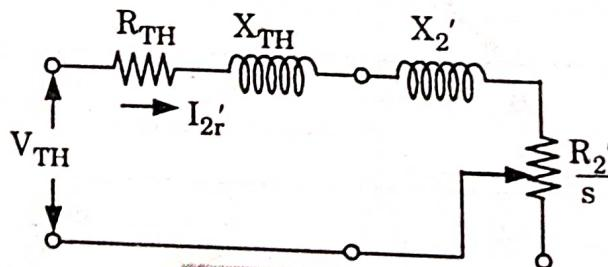

Fig. 3.14.1.
- Consider the Thevenin's equivalent network for induction motor as shown in the Fig. 3.14.1.